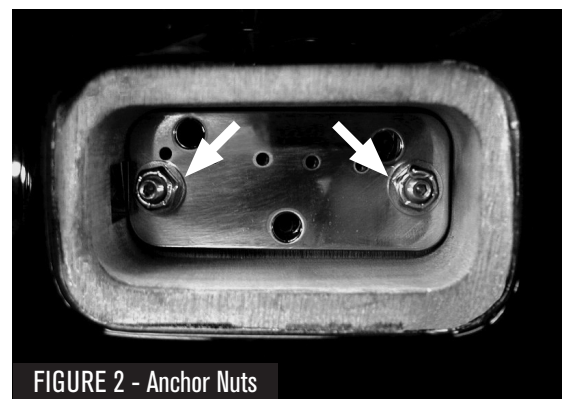

FIGURE 2 - Anchor Nuts
- Two anchor nuts (*Fig 2*) hold the bridge assembly together. Do not remove them or the bridge will come off.
- Each time you raise the bridge on either the treble or bass side, you will need to loosen the anchor nut (*Fig 2*) prior to raising it to relieve clamping tension.
If you remove the back cover plate to expose the underside of the bridge (*Fig 2,3*) you will see the six small holes to access the saddle locking screws on the inside back plate. Turn the screws clockwise to snug them up.